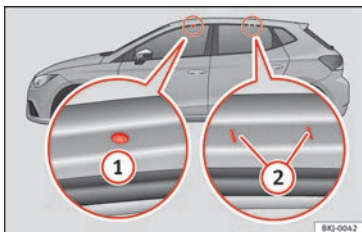

Fig. 143 Attachment points for the roof rail-ings for the roof carrier system.
The front and rear attachment points ① and ② are only visible when the doors are open » **Fig. 143.**